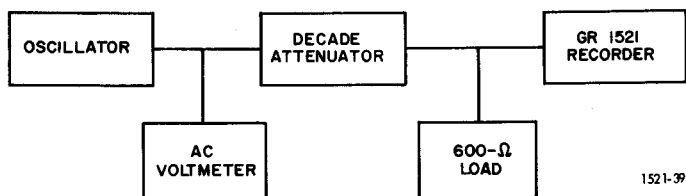

Figure 6.2 Test circuit for checking ac potentiometers used in the 1521.
- Set up the test circuit shown in Figure 6.2. The 600- $\Omega$  load resistor is connected across the output terminals of the decade attenuator and the voltmeter (via its probe) is connected to monitor the output of the oscillator. Two patch cords, GR 274-NP, can be
a. Set up the test circuit shown in Figure 6.2.